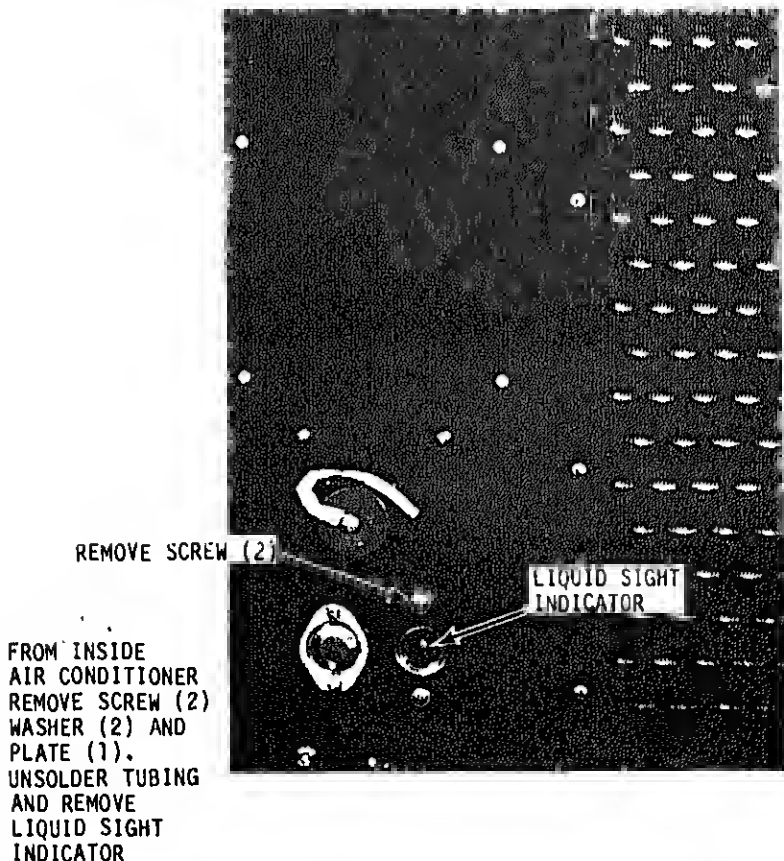

Figure 5-9. Liquid sight indicator removal and installation
a. General. The liquid sight indicator provides a heavy glass port hole to give visible indication of refrigerant flow. Figure 1-2 shows the location and figure 5-9 is a closeup view.
- (4) Refer to figure 5-9 and remove the liquid sight indicator mounting plate.
- (5) Unsolder the liquid sight indicator from the refrigerant system tubing.
- (1) Refer to figure 5-9 and install the liquid sight indicator and mounting bracket.